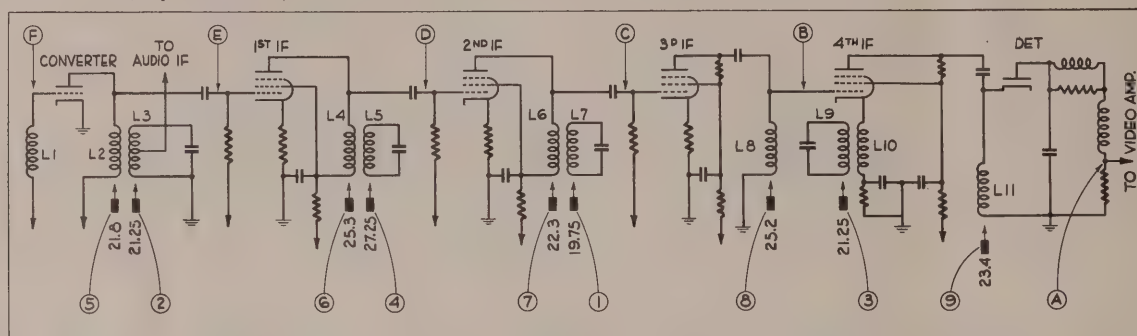

FIG. 4 TYPICAL TV PICTURE IF SYSTEM
7. Referring to the manufacturer's instruction sheet it is found that the first adjustment is that of the Adjacent Channel Video Carrier Trap at 19.75 MC. Follow the instructions given under CALIBRATION PROCEDURE in this manual to determine the exact dial setting for 19.75 megacycles. This setting should be recorded for future references. It is good practice to determine the dial settings for all frequencies specified in the alignment instructions before proceeding with the adjustment. Thus the alignment can be carried through without interruption. The frequencies specified in this example are: 19.75, 21.25, 21.8, 22.3, 23.4, 25.2, 25.3, and 27.25. See Fig. 4.
Connect the Output cable to point F of Fig. 4. Ground lead to chassis. Connect the SIGNAL INPUT cable to point A Figure 4. Advance the receiver contrast control to about $3/4$ of its range.
10. Set the AM Generator logging scale to the point recorded for 19.75 megacycles and adjust L7 (Point 1) Fig. 4 for MINIMUM pattern height. If the pattern disappears completely increase attenuator setting until the exact MINIMUM point can